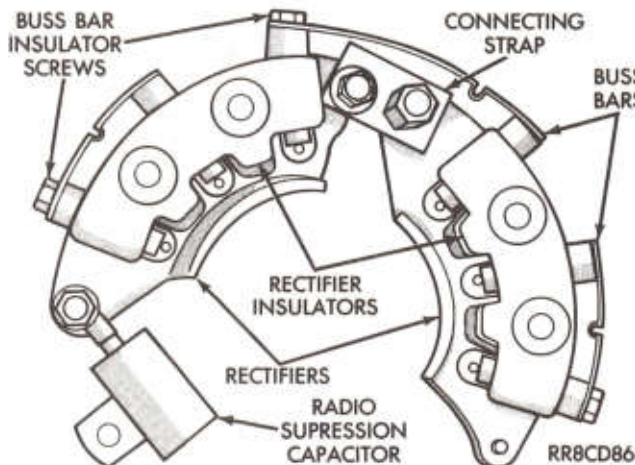

Fig. 8—120HS Alternator Rectifier Assembly
(5) On 120HS alternator rectifier, remove connecting strap from between rectifiers, remove buss bar and insulator attaching screws and separate the insulators from the rectifier (Fig. 8).